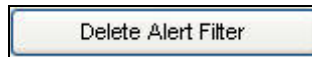

Figure 8.4.2
4. Click on the **Remove Default Alert Filter** button (Figure 8.4.2).